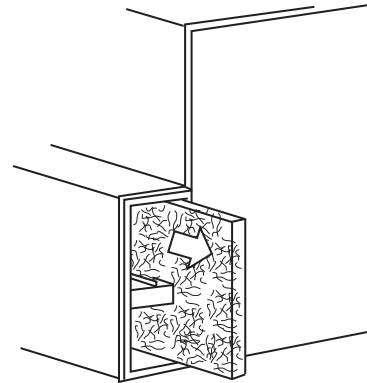

Fig. 27 - Slide Side Filter Out of Furnace
- Slide air filter out of furnace. Keep dirty side up (if dirty) to avoid spilling dirt. (See Fig. 27 and 28.)